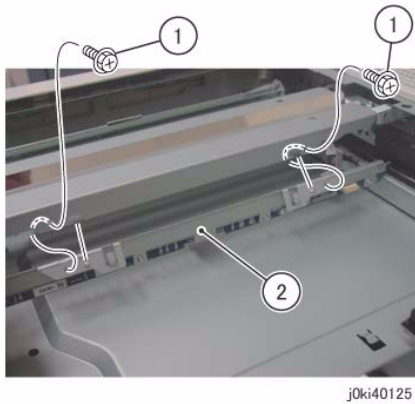

Figure 2 Remove the LED Lamp
7. Remove the LED Lamp. (Figure 2)